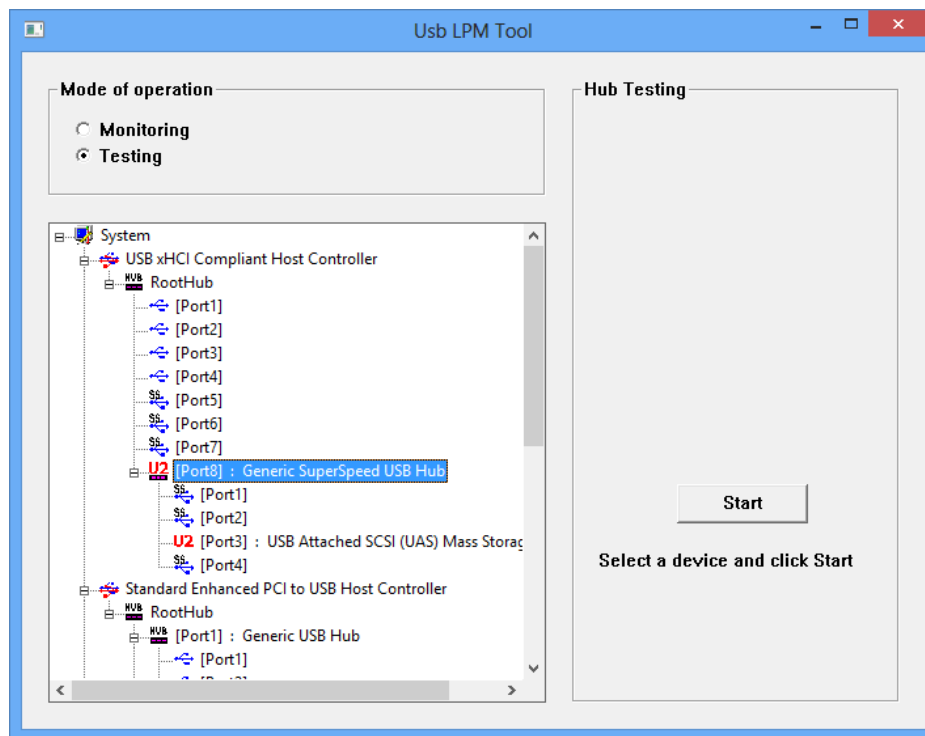

Figure 6-25: USB LPM Tool Interface
- Select the SuperSpeed hub from the list as shown in Figure 6-25.